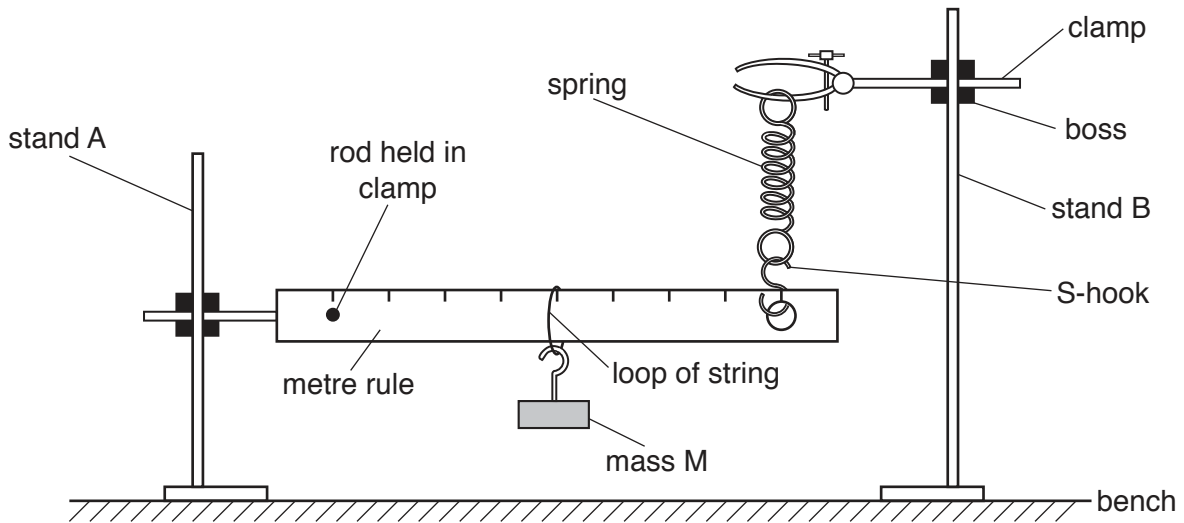

Fig. 4.2
6. The loop of string should fit loosely over the metre rule so that the candidate can suspend the mass M from the rule at the 50.0 cm mark whilst it is held horizontally by the spring. The **candidate** will set up the apparatus as shown in Fig. 4.2.
7. This can be a piece of stiff wire bent into an S-shape. Supervisors should ensure that this does not straighten when loaded as shown in Fig. 4.2. Supervisors should also ensure that the candidate can easily pass the hook through the hole at the 90.0 cm mark on the rule.